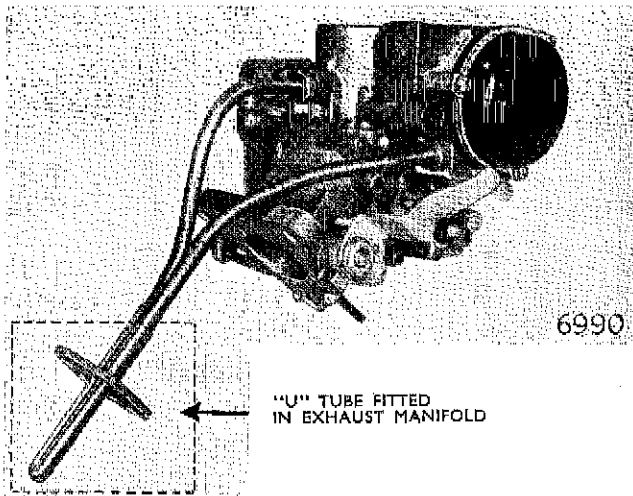

Fig. 7. "U" tube used in exhaust manifold and connections to carburettor
- (a) The vacuum kick piston (4) to open the choke valve (12) gradually to its full open position.
- (b) The stepped cam (7) to move into a position that allows the throttle to return to the normal idling position from the fast idling position, after the throttle has been opened.
Fig. 7 shows the "U" tube (10) removed from the exhaust manifold and connected to the carburettor by the two copper pipes (15) and (9).